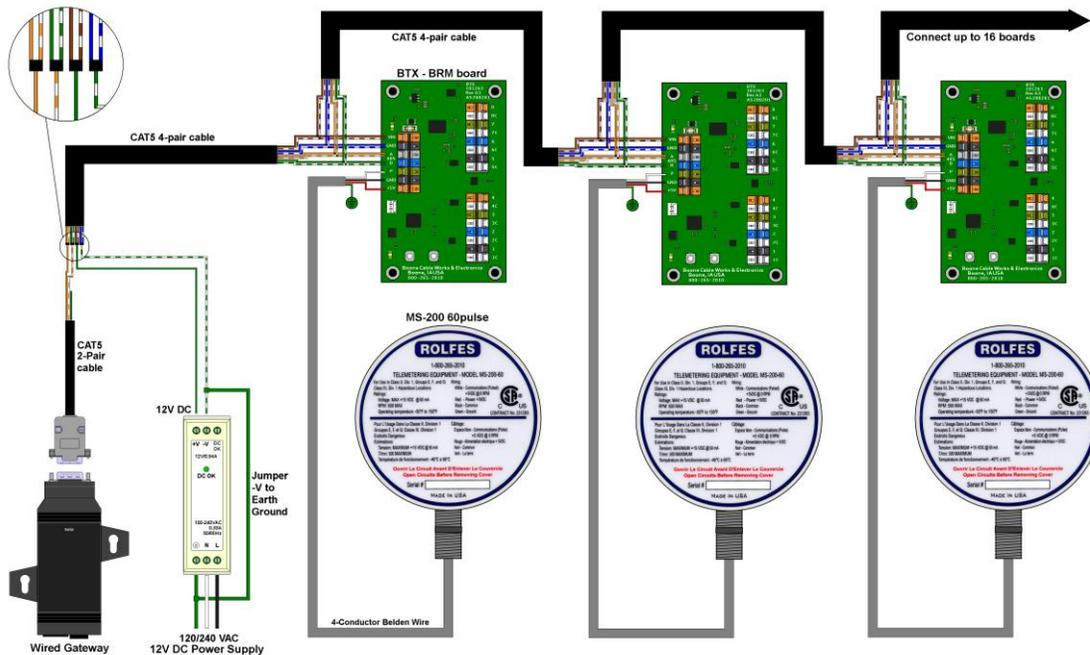

Figure 6. BTX & Motion Modules connected to a Wired Gateway
Control Wire runs from the Gateway to the first BTX module boxes and daisy-chain between each subsequent Remote BTX Module. (See figure 6).
4.4.2. Terminations; are done where the cables are connected to the circuit boards. BTX boards use a Cage-Clamp type terminal blocks. (See Figure 9). For the gauges of wire used in our cables, we have found that this spring-pressure provides a more reliable connection regardless of temperature variations, vibration, and corrosive environments. They also reduce overall wiring and maintenance time. (See figures 6, 7 & 8).